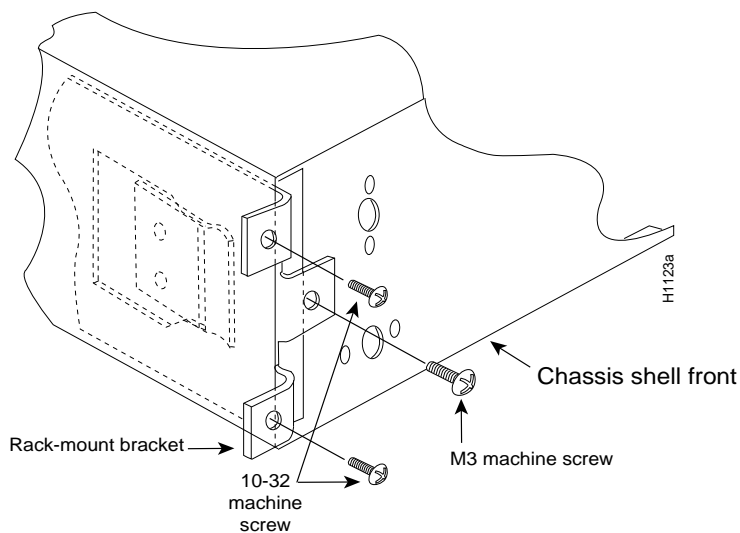

Figure 8 Standard Rack-Mount Bracket and Screw
Step 3: Fasten the brackets to each side of the chassis shell with the M3 machine screws provided (see Figure 8).